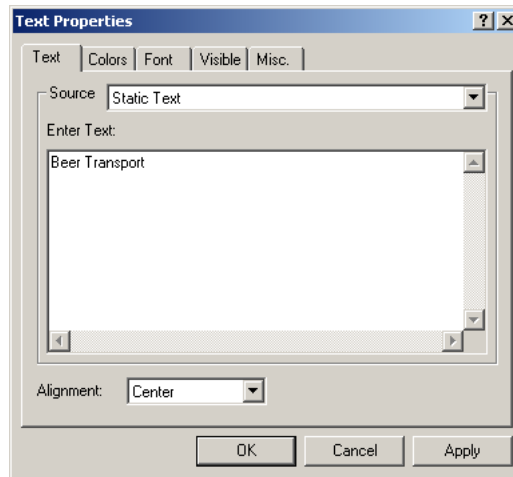

Figure 6.9: The text tab of the text properties dialog box
- ▶ select ‘Center’ from the ‘Alignment’ drop-down list (see Figure 6.9),